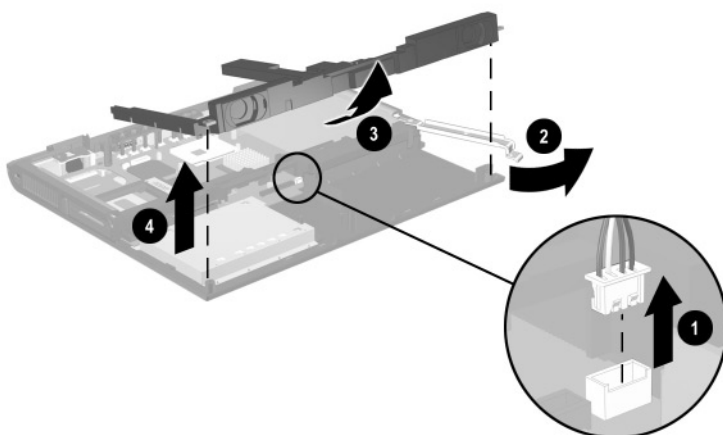

Figure 5-38. Removing the Speaker Assembly
4. Disconnect the speaker cable **1** from the system board (Figure 5-38).